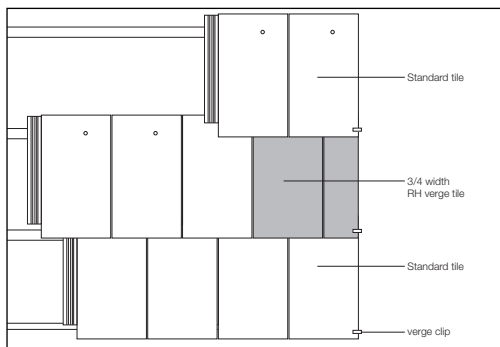

Fig 26 – Typical bedded verge (right hand)
- Verges should be formed using standard tiles with left hand or right hand 3/4 width verge tiles in alternate courses. Standard tiles on left hand verges will require the sidelock to be removed (Fig 26).